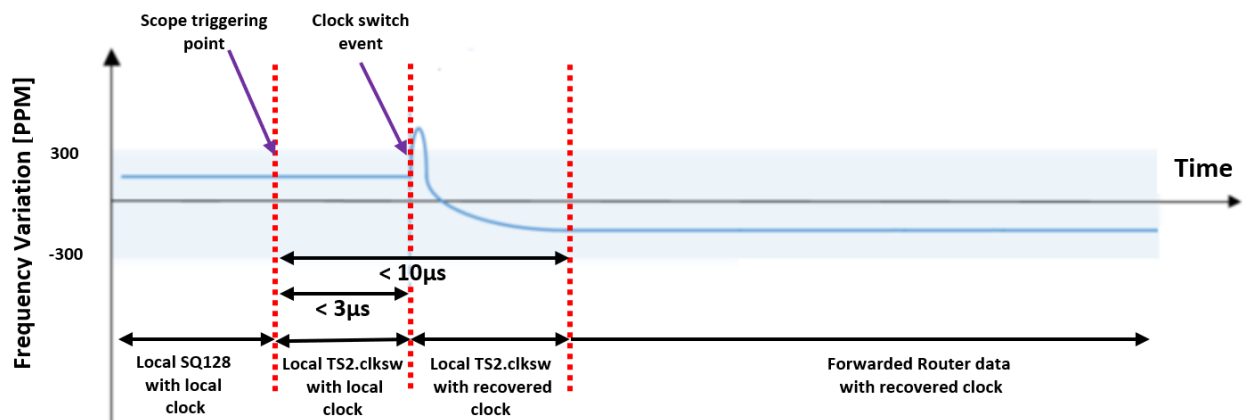

Figure 19. Frequency variation dynamics example
5. Capture the clock switch event over three stages: pre-clock switch, clock switch and post-clock switch in a single waveform as depicted in a Figure 19